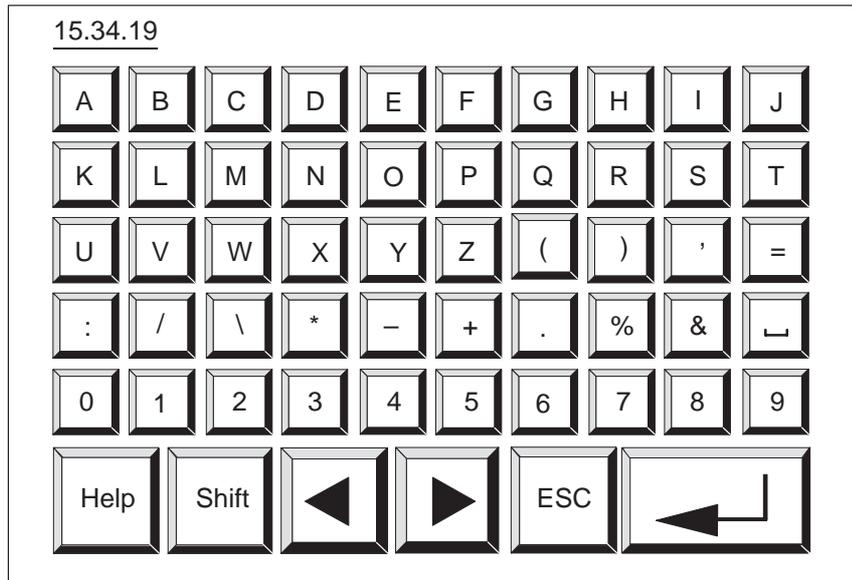

Figure 3-3 Entering alphanumeric values at the language-independent normal level
Input window Enter numbers in the fields configured for alphanumeric input, character for character, using the alphanumeric keypad. Figure 3-3 illustrates the language-independent keyboard template for the normal level. The keyboard template for the Shift level of the alphanumeric keyboard varies according to the language.
- Normal level: (see figure 3-3) is the same in all languages.